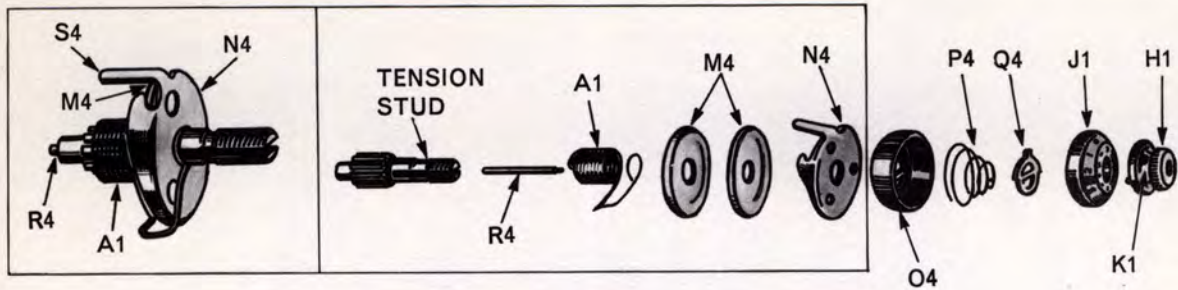

Fig. 20. Needle Thread Tension Assembly.
**REMOVAL:** (See Fig. 20).
1. Turn thumb H1 to left (anticlockwise) until "O" on numbered dial J1 stops at center line on indicator O4, Fig. 20.
**NOTE:** IT IS NOT NECESSARY TO REMOVE TENSION STUD FROM MACHINE. IT IS SHOWN REMOVED IN FIG. 20. TO ILLUSTRATE COMPLETE ASSEMBLY. SEE PAGE 9 FOR INSTRUCTIONS ON REMOVAL OF TENSION ASSEMBLY AS A UNIT.
1. Make certain that tension releasing pin R4 is in place as shown in insert, Fig. 20.
4. Align coils of spring with holes in discs and place this assembly on tension stud as shown in insert Fig. 20 Extension S4 of thread guard N4 enters hole provided in machine head.
5. Replace indicator O4, Fig. 20 with open side facing out and with plus (+) and minus (—) signs at top.
6. Hold these assembled parts against shoulder of stud and place tension spring P4, Fig. 20, so that the half coil at front is in the lower position, on tension stud.